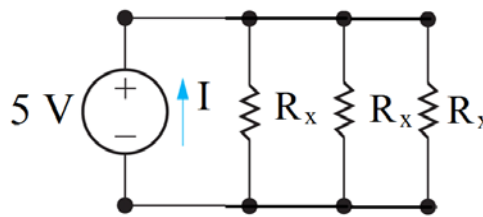

Figure 5: Parallel Circuit
3. For the circuit in Figure 5, if  $I = 10 \text{ mA}$ , what is the value of  $R_x$ ?